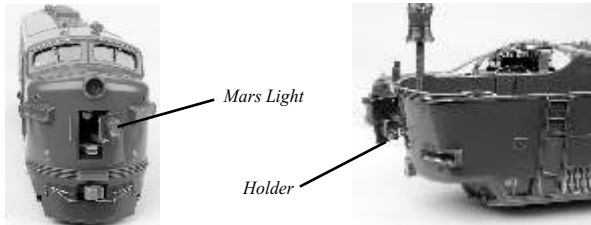

Figure 26
2. To replace the mars light (if applicable) you will need to remove the holder on the door. See figure 26.